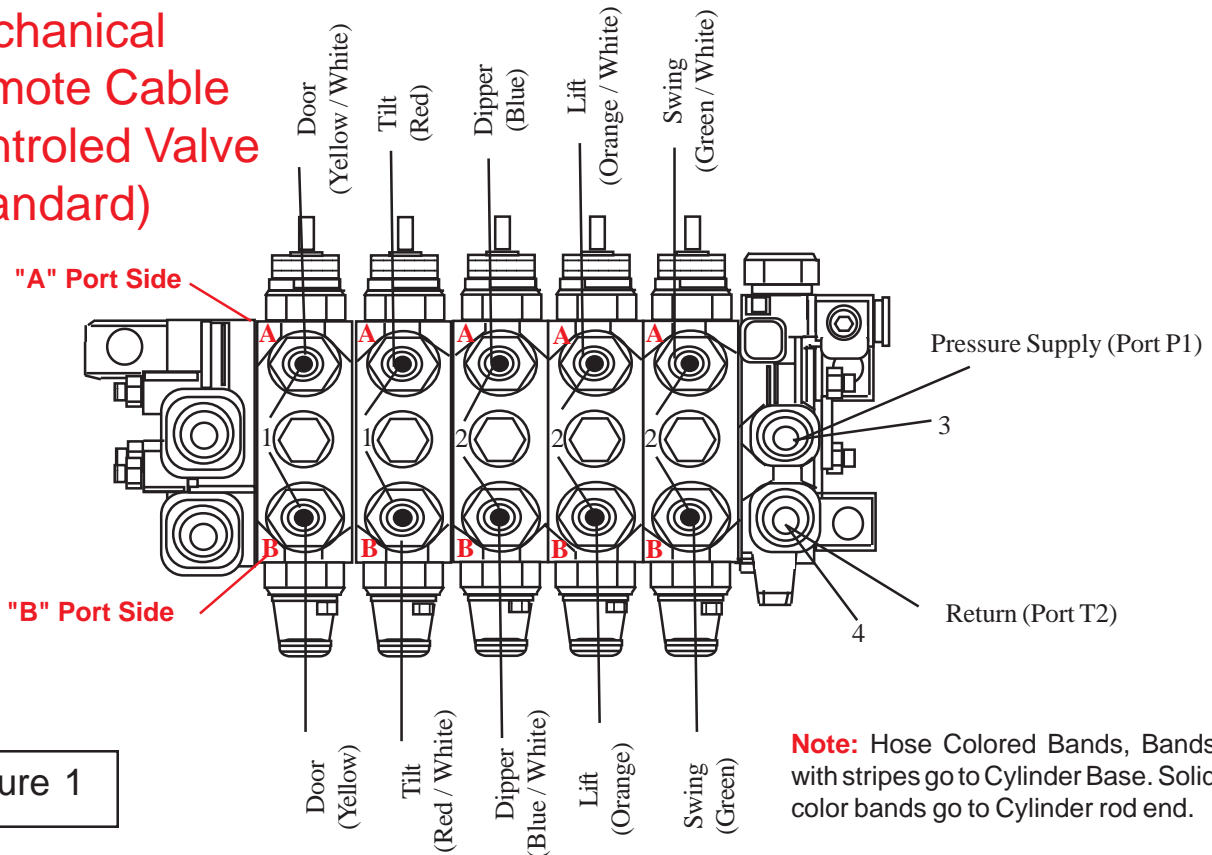

Figure 1
6. Valve Ports: (See Figure 1 & 2)
Mechanical Control Valve (See Figure 1)